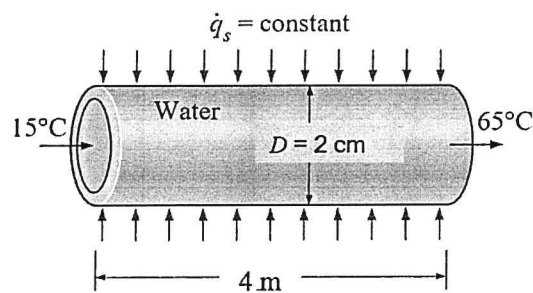

Figure 4: Internal convection of a tube
*Refer Below - Figure4 : Internal convection of a tube .*